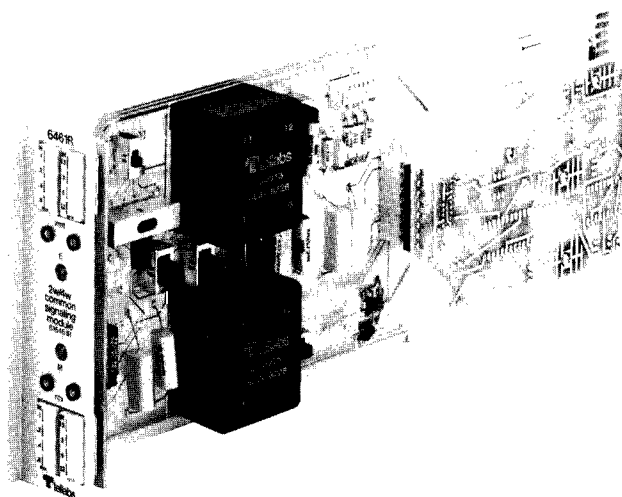

figure 1. 6461R Common Signaling Module
1.01 The 6461R Common Signaling Module (figure 1) provides transmission interface between a 4wire carrier facility and 2wire or 4wire station equipment or a PBX or CO trunk. When used in a Tellabs 266XR Registered Network Interface System, the 6461R module provides an interface that complies with Part 68 of the FCC Rules and Regulations (refer to Practice section 8X266XR for FCC registration considerations). The 6461R module provides adjustable transmission attenuation and switch-selectable 4wire-to-2wire conversion. As an alternative to 4wire-to-2wire conversion, the 6461R can be switch-optional to provide a 4wire-to-4wire pad/transformer interface. In addition, the 6461R accepts several types of optional signaling converter plug-on subassemblies that provide various modes of signaling conversion.